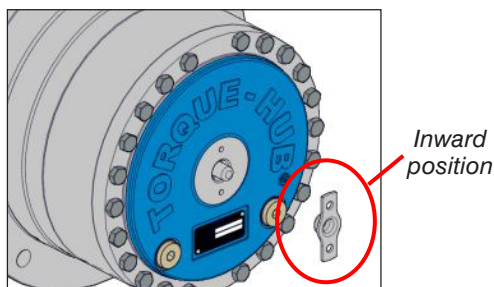

Figure 22 Disengage cap - inward position
- b. Remove disengage cap and rotate to inward position (refer to Figure 22).